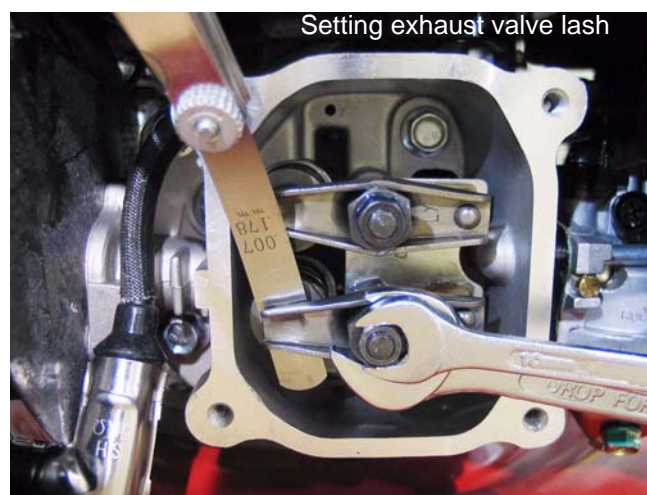

Figure 5.20
5.20. Check valve lash between each valve stem and rocker arm using a feeler gauge. See Figure 5.20.